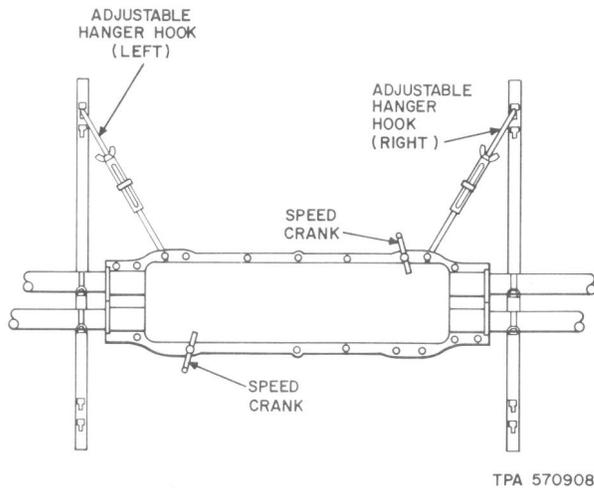

Fig. 2—Closing Splice Case
3.01 A splice case is closed with the FAST-PAK Tool Kit as shown in Fig. 2, and as follows: